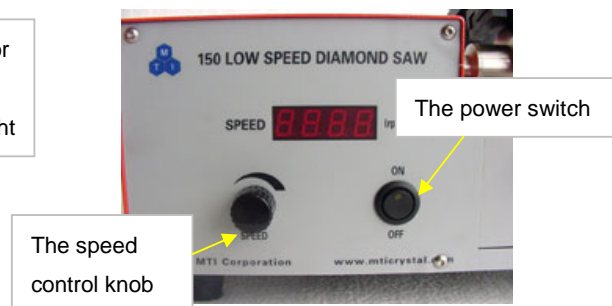

Figure 7
- Turn the main power switch ON by depressing the switch (Fig. 7).
- Adjust the speed using the speed control knob on the front panel. (Fig. 7, The higher speed is better for low hardness material)